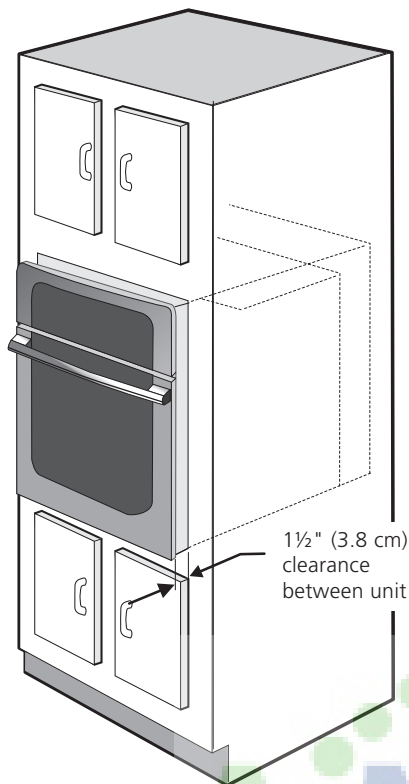

Figure 5
- 3 Insert the oven into the cabinet opening. Slide oven inward leaving 1½" (3.8 cm) clearance between the oven and front of cabinet (see Figure 5).